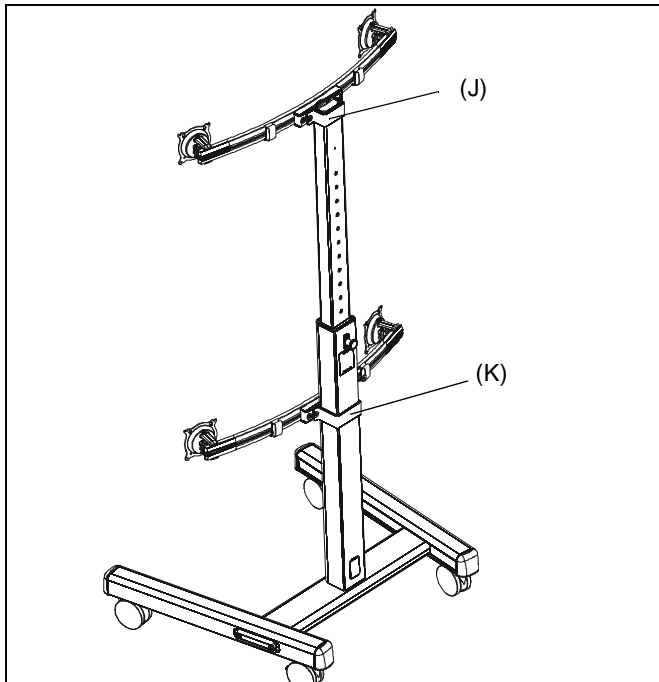

Figure 1
1. Determine proper pole clamp to use for installation. If mounting to wide portion of pole mount use large pole clamp bracket (K). If mounting to extendable upper portion of mount, use small pole clamp bracket (J). (See Figure 1)